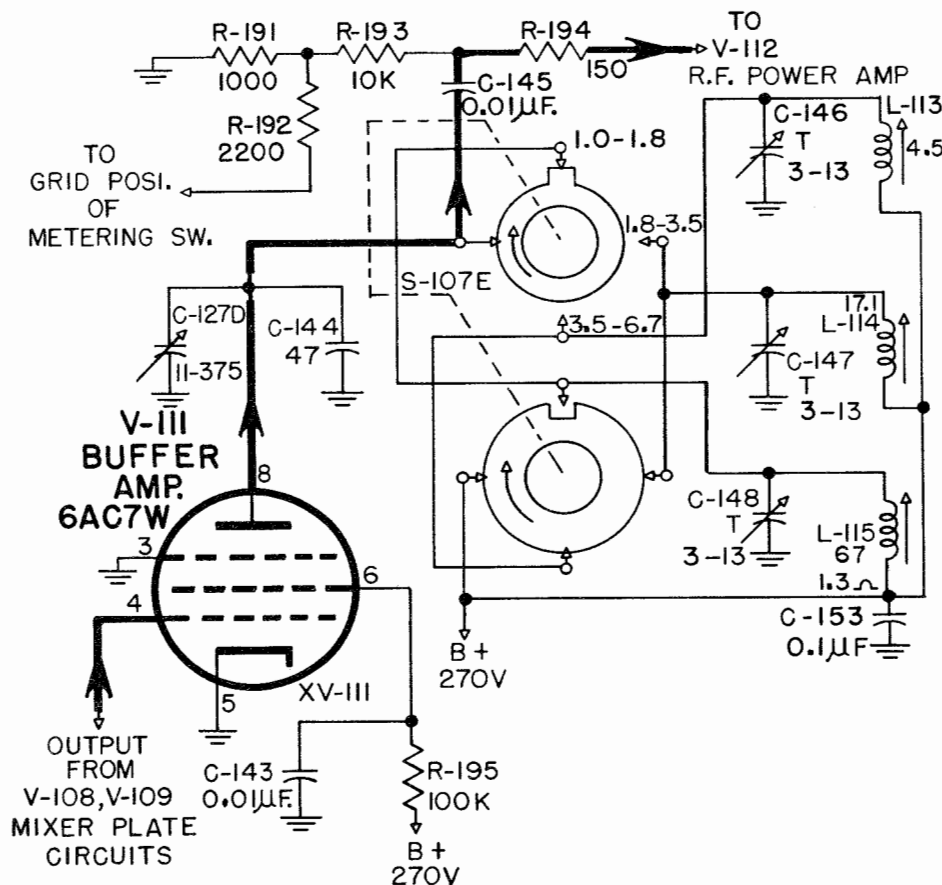

Figure 2-14. Buffer Amplifier Stage, Simplified Schematic Diagram
(12) BUFFER AMPLIFIER.—The output of the balanced mixer is applied to the grid of a 6AC7W sharp cut-off pentode V-111. See Figure 2-14 for a schematic diagram of this stage.